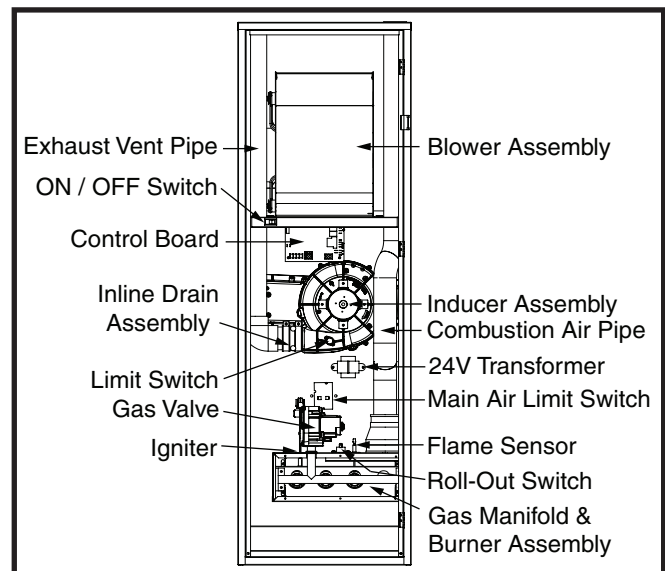

Figure 18. Furnace Components
If the burners must be cleaned, follow steps 1-12. See Figure 18 \(page 27\) for component location.
- If the inducer blower is operating, and items above have been verified, check the blower limit switch and reset if necessary. See Figure 18 for component location.
- If the furnace still doesn't operate, check the flame roll-out switch (Figure 18) and reset if necessary.
The descriptions below are various functional components that affect the operation and shutting down of this furnace. Some of these components and their locations are shown in Figure 18. If any component of the furnace must be replaced, use only factory authorized replacement parts specified in the Replacement Parts List provided online.